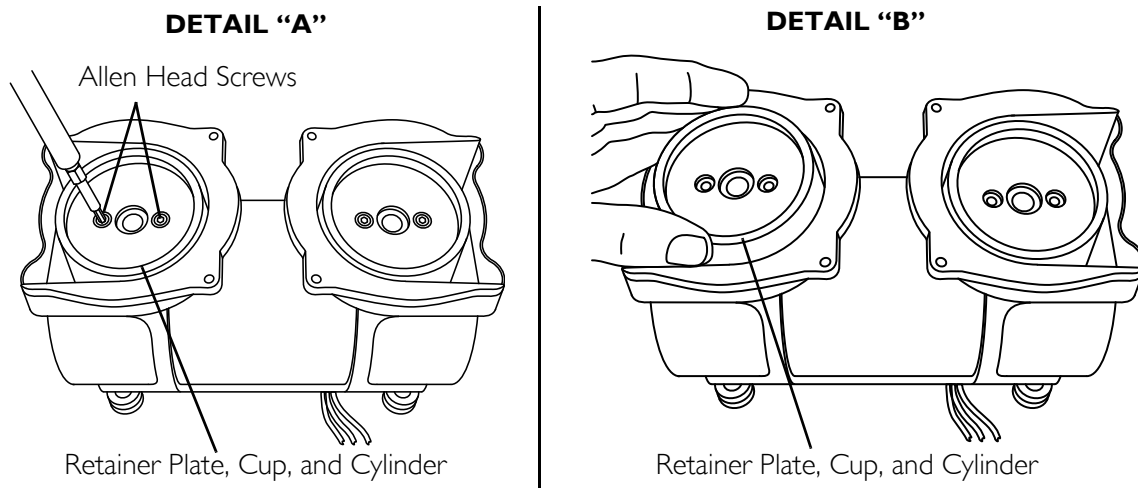
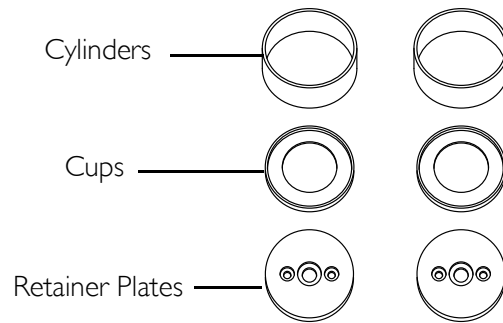
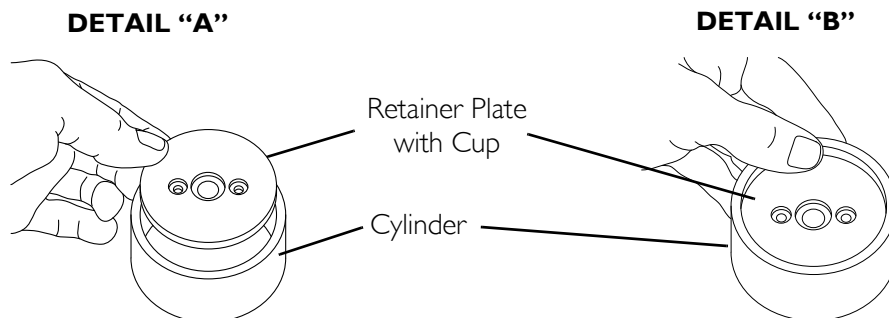
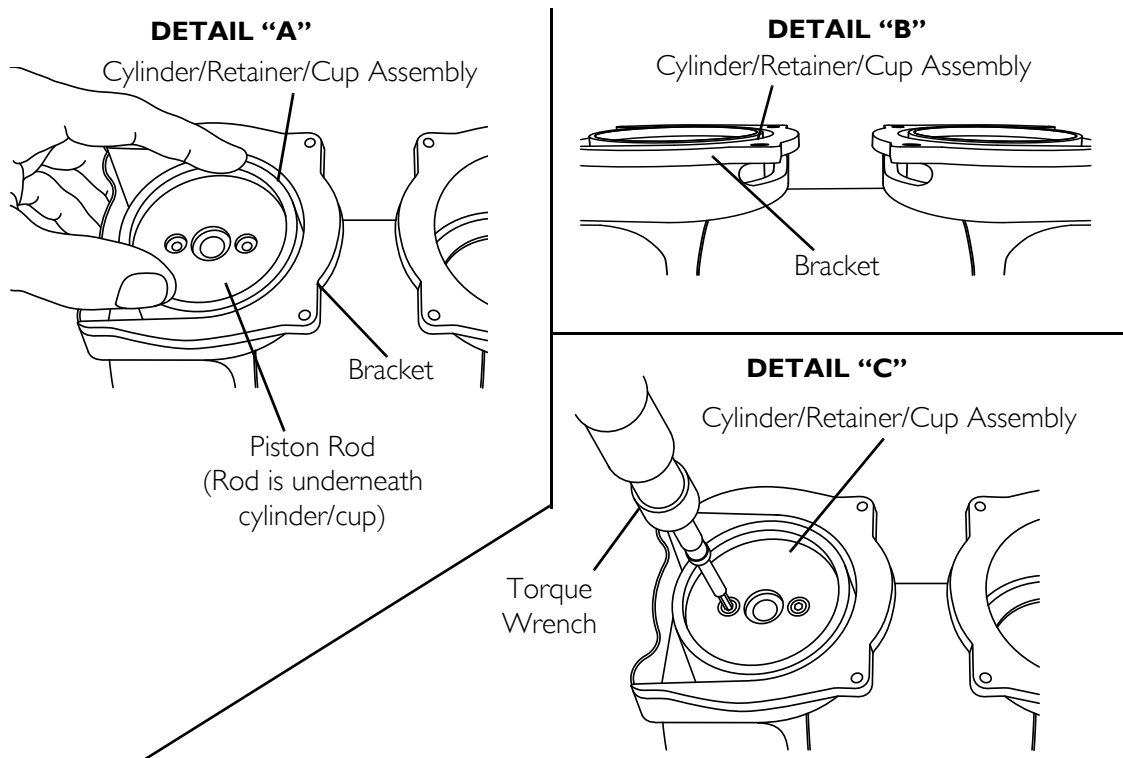

FIGURE 7.18 Removing the Existing Retainer Plate, Cups and Cylinders
FIGURE 7.19 Identifying the New Retainer Plate, Cups and Cylinders
FIGURE 7.20 Installing the New Retainer Plates, Cups and Cylinders
FIGURE 7.21 Installing the New the Cylinder onto the Compressor
NOTE: For this procedure, refer to FIGURE 7.18 on page 47 and FIGURE 7.19 on page 48.
NOTE: The cylinder, cup and retainer plate should all come off together. Refer to FIGURE 7.19 for individual illustrations of cylinder, cup and retainer plate.
NOTE: For this procedure, refer to FIGURE 7.19, FIGURE 7.20, and FIGURE 7.21 on page 49.
1. Find the new cylinders and cups in the repair kit (FIGURE 7.19).
2. Place the new retainer plate into the new cup (Detail "A" of FIGURE 7.20).
4. Place the new cylinder/retainer/cup assembly over the piston rod (Detail "A" of FIGURE 7.21).
5. When properly installed, the cylinders extend slightly above the bracket surfaces (Detail "B" of FIGURE 7.21).
6. Secure the new cylinder/retainer/cup assembly to the compressor piston with the new retainer plate screws (Detail "C" of FIGURE 7.21).